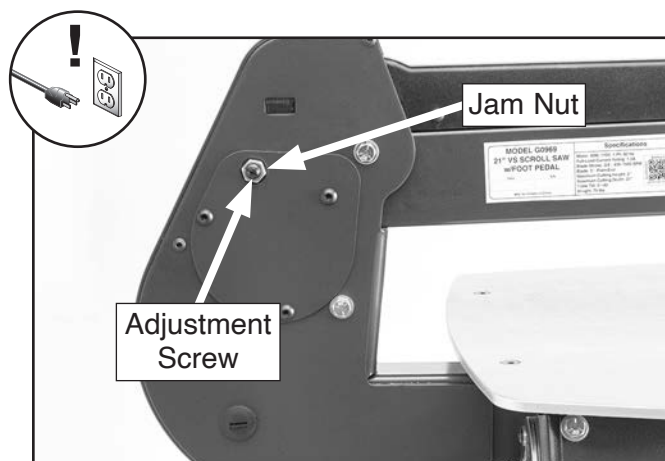

Figure 38. Adjusting upper arm tension.
- Loosen jam nut shown in **Figure 38**.
- Turn adjustment screw shown in **Figure 38** clockwise approximately 1/4 turn. Check arm for play.